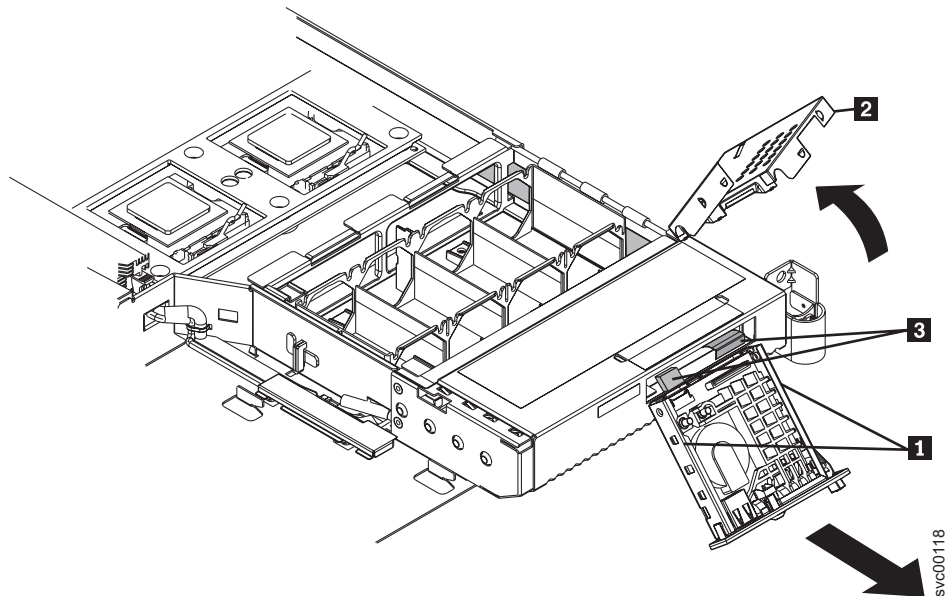

Figure 156. SAN Volume Controller 2145-8F2 with exposed operator information panel
5. Use a small screwdriver to push in the retention springs **1** on the sides of the operator information panel assembly. See Figure 156.